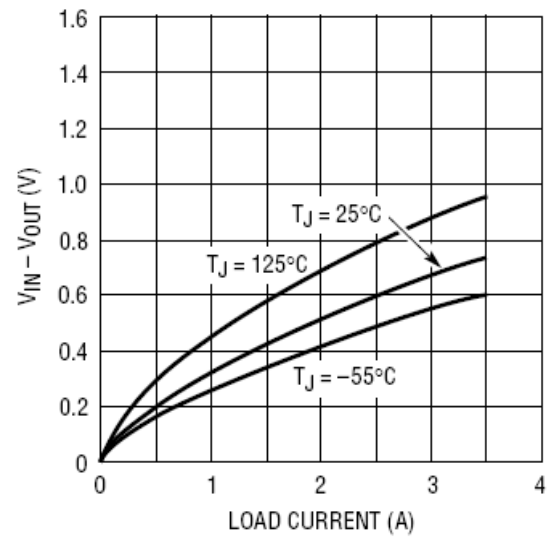

FIGURE 4 – RH1185 DROPOUT VOLTAGE TYPICAL CURVE
- 6/ Dropout voltage is tested by reducing input voltage until the output drops 1% below its nominal value. Tests are done at 0.5A and 3A. The power transistor looks basically like a pure resistance in this range so that minimum differential at any intermediate current can be calculated by interpolation; $V_{DROPOUT} = 0.25\text{V} + (0.25\Omega \times I_{OUT})$. For load current less than 0.5A, see Figure 4.